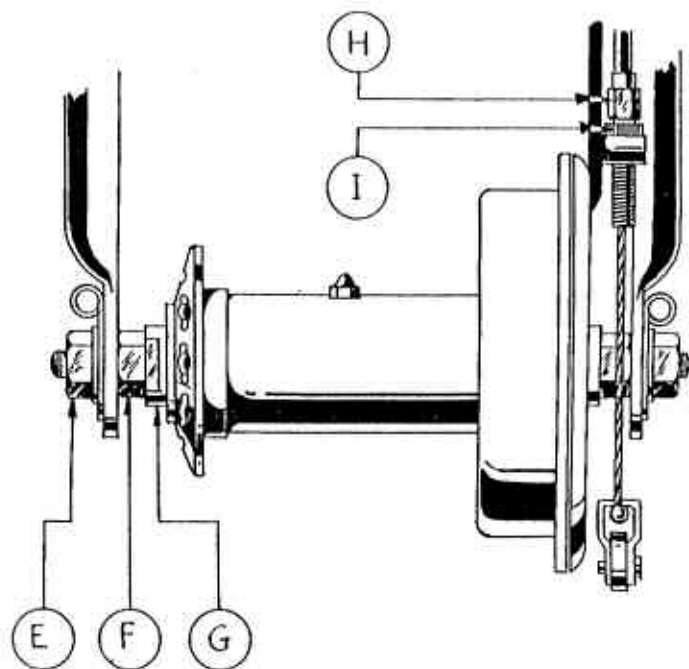

Fig. 3.
Brakes. To adjust front or rear brakes, grip the hexagon nut (H), see Fig. 3, and turn the knurled nut (I) as required. When adjusting brakes take care that they are not adjusted so tightly as to rub on the brake drum.
Hubs. Any lateral slackness in both front and rear wheels may be taken up as follows. Loosen hub nuts (E), see Fig. 3, and cone locking nuts (F). The cone (G) may then be adjusted as required, using a cone spanner. When correctly adjusted there should be no side play, but the wheel should revolve quite freely. Tighten locking nuts (F) very securely and finally tighten hub nuts (E).